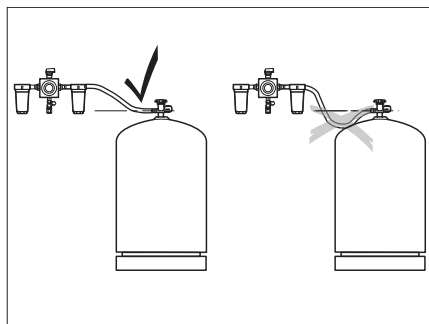

Fig. 84 Routing of the high-pressure hoses
- ▷ When routing the high-pressure hoses ensure that the hoses rise continuously (Fig. 84).